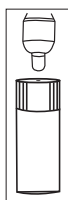

Figure 3B
3. Briefly place the probe tip close to the small hole, as shown in Figure 3B until an audible alarm is generated. This will be an indication that the unit is operating properly. Reseal the vial with the previously removed vinyl cap and return to the case.